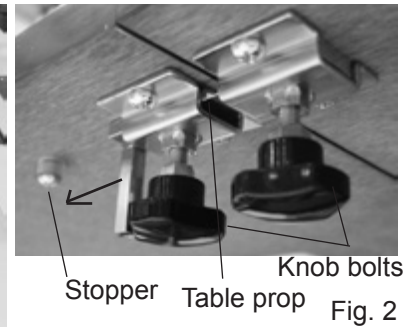

Fig. 2
4. Loosen all of the Knob bolts on the reverse side of the Table slightly, pull the Table prop B till it hits Stopper as shown in Fig. 2.